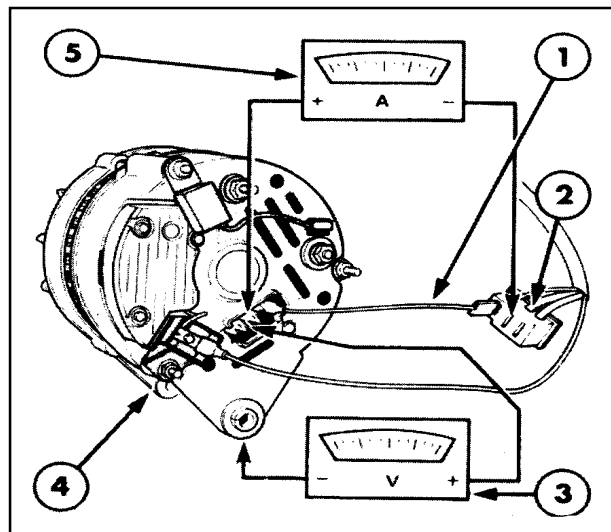

Figure 12
1. With reference to Figure 12. Ensure all tractor electrical components are switched off and the key start switch is in the "OFF" position.